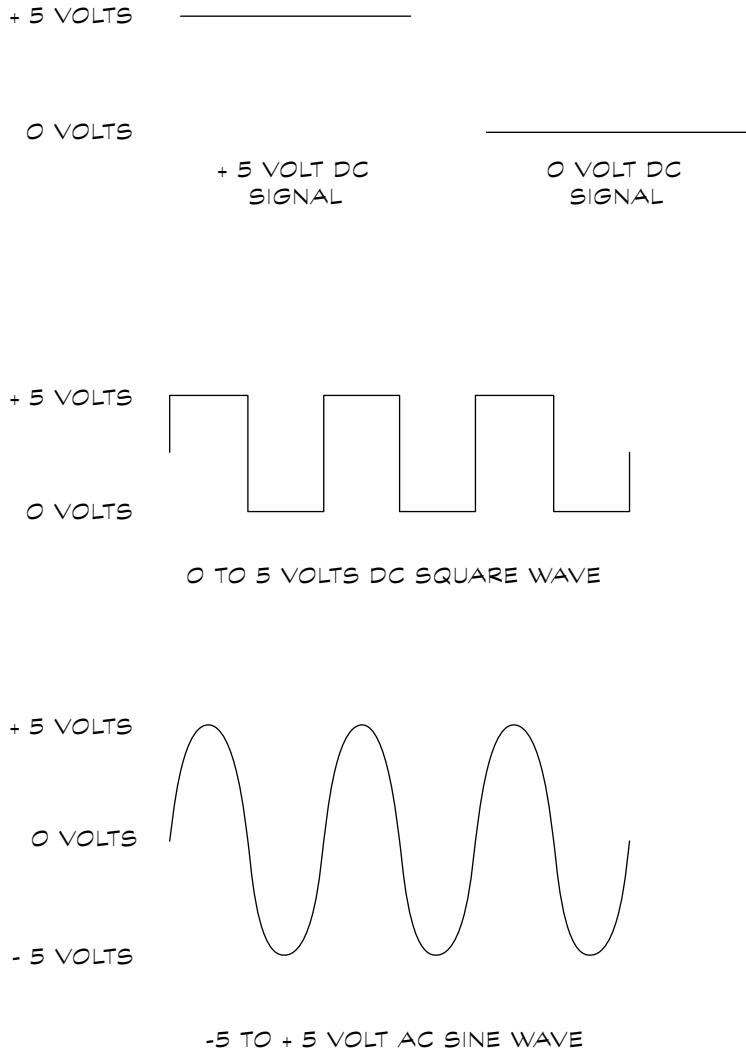

Figure 1-1:
Figure 1-1 shows diagrams of a few signals that you run into often when working with electronics. These signals include
- ✓ **- 5 volt to + 5 volt AC sine wave:** A signal, such as from a microphone, that generates alternating current that a device, such as an amplifier, uses as input. A microphone generates the waveform in Figure 1-1 when it receives the sound produced by a tuning fork. Notice in Figure 1-1 that the transitions from +5 volts to -5 volts are gradual for the sine wave and more abrupt in the square wave.